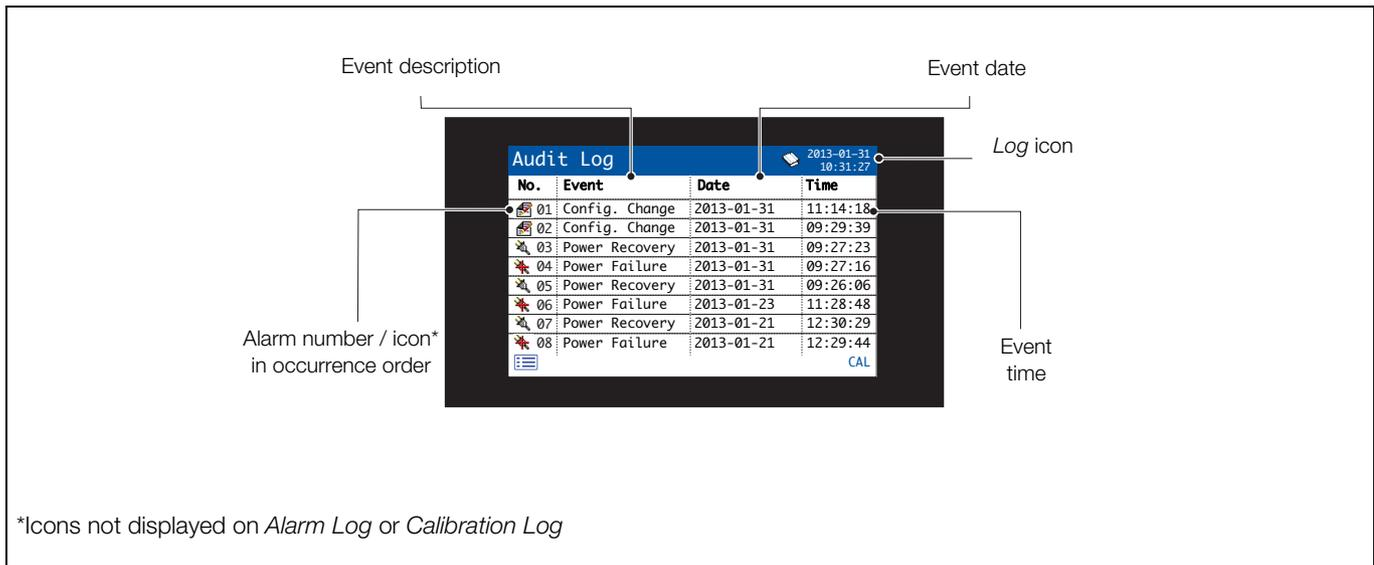

Fig. 9.12 Audit log
- *Audit Log*: a history of system activity – Fig. 9.12.